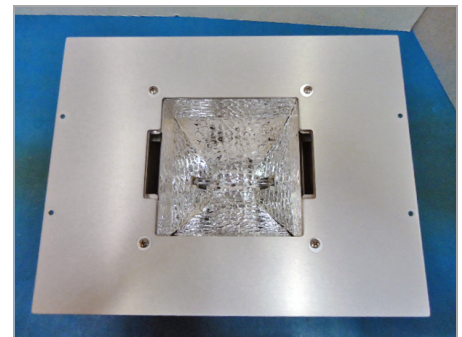

Figure 3. Install Adapter Plate to Lamp
5. Align the Adapter Plate on the Lamp (Figure 3) and secure it with M4 x 8 mm pan-head screws. The screws should be hand tightened.